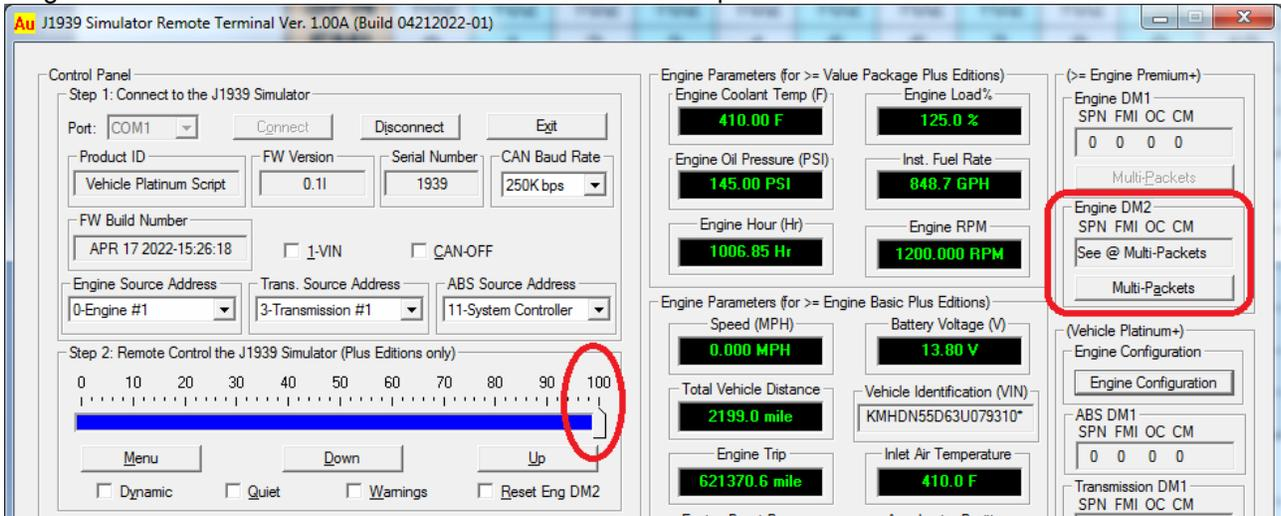
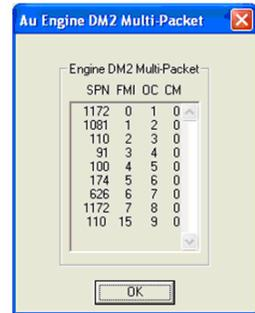

Figure 4-16
Figure 4-17
- If engine DM2 is a multi-packet, “see @ Multi-Packets” will display, “Multi-packets” button will be active (Figure 4-16), Click on it, the whole list of engine DM2 will display (Figure 4-17).